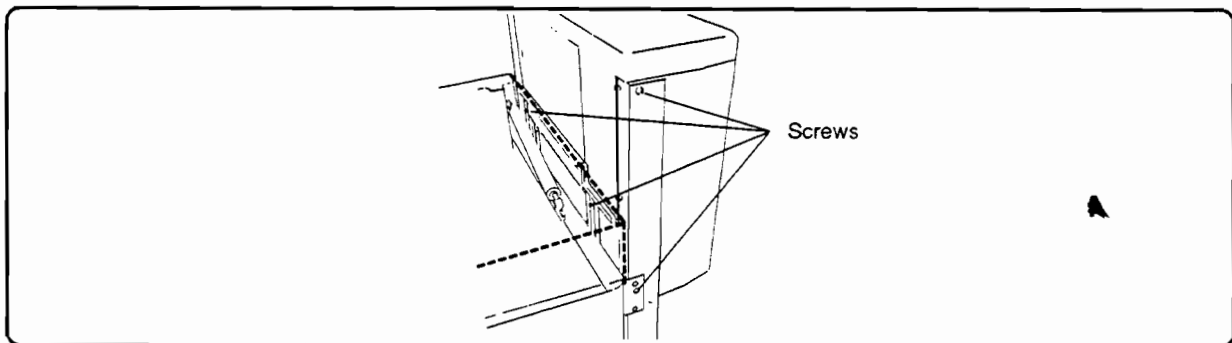

Figure 6-123. Stacker Mounting Screw Locations
2. From the laser optics area, remove the two screws that hold the inside of the Stacker assembly (Figure 6-123).
5. Remove the two screws from the back side of the vertical arm (Figure 6-123).